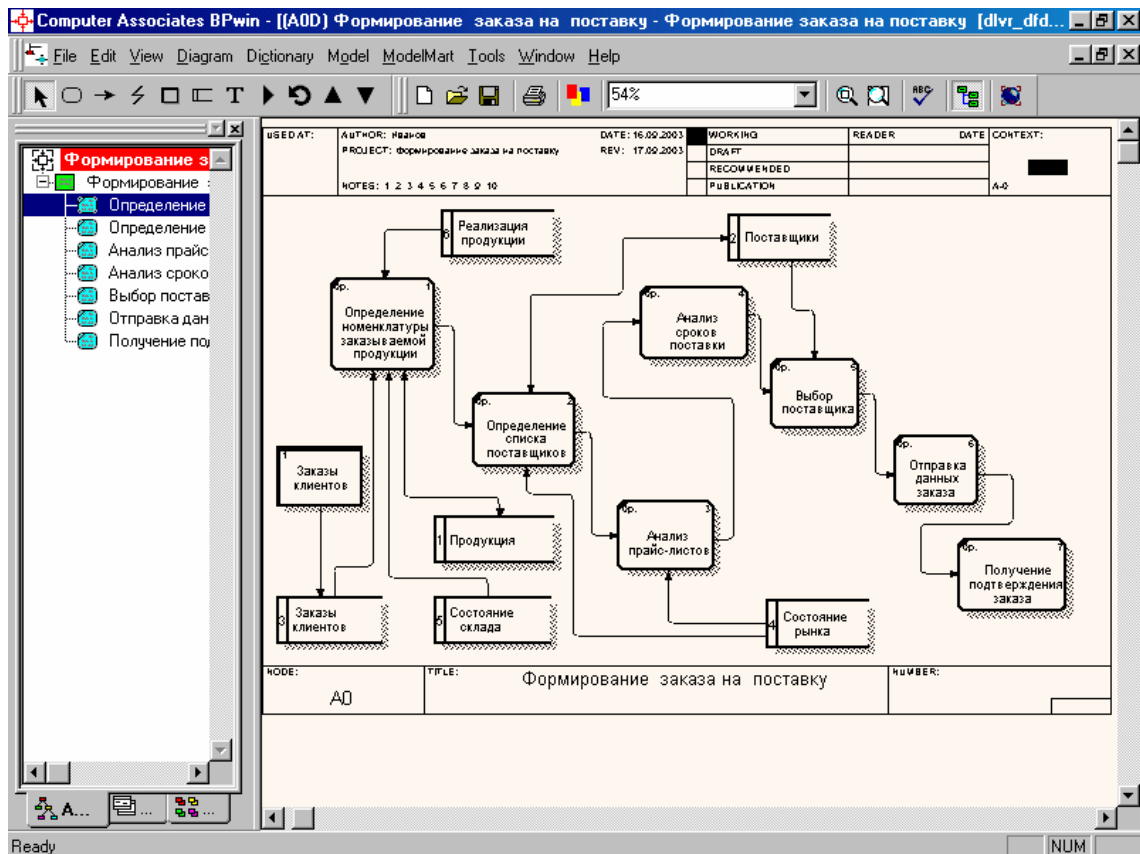

Figure 1.20
3. Add an external link "Customer Order" to the chart. To make an external link, click the "External Reference Tool" button on the toolbar, and then click on the place in the chart where you want to place the external link (Figure 1.20)
4. Place the data warehouse on the diagram. To do this, click on the "Data store Tool" button on the toolbar, and then click on the place in the chart where you want to place the data warehouse. Create data warehouses with the names "Products", "Suppliers", "Customer Orders", "Market Status", "Stock Status", "Product Sales" (without quotes) (Figure 1.20)
5. Create internal arrows. Use the arrows to link the objects in the diagram as shown in Figure 1.20. Note that some arrows are bidirectional. In order to set the bi-directionality of the arrow, you must click on the arrow with the right mouse button, select "Style" in the menu and in the "Arrow Properties", in the "Type" section, set the switch to "Bidirectional".